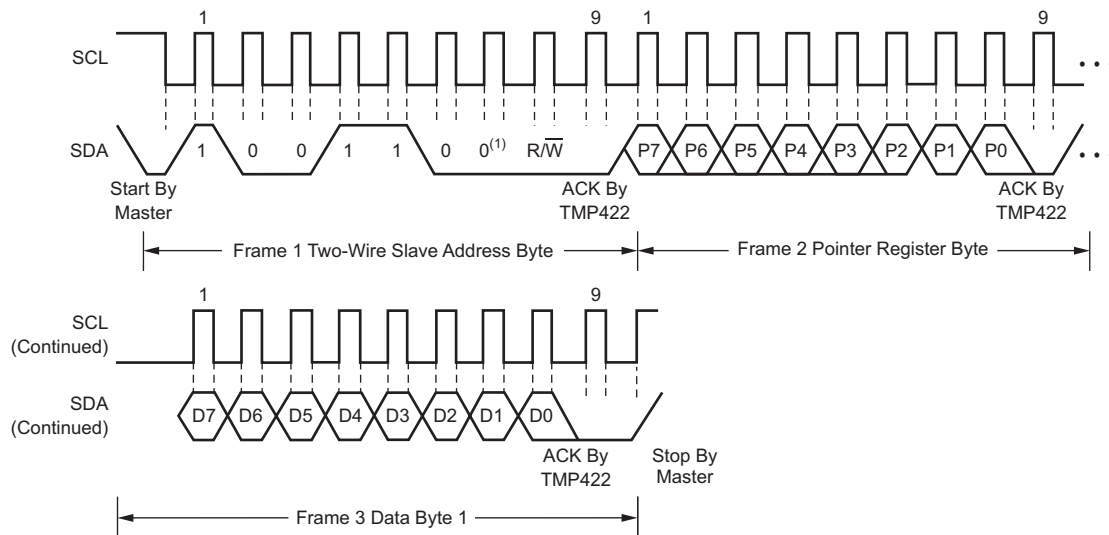

**Figure 14. Two-Wire Timing Diagram**
The TMP422 is two-wire and SMBus-compatible. Figure 14 to Figure 17 describe the timing for various operations on the TMP422. Parameters for Figure 14 are defined in Table 11. Bus definitions are:
**Start Data Transfer:** A change in the state of the SDA line, from high to low, while the SCL line is high, defines a START condition. Each data transfer initiates with a START condition. Denoted as S in Figure 14.
**Stop Data Transfer:** A change in the state of the SDA line from low to high while the SCL line is high defines a STOP condition. Each data transfer terminates with a repeated START or STOP condition. Denoted as P in Figure 14.
**Table 11. Timing Characteristics for Figure 14**